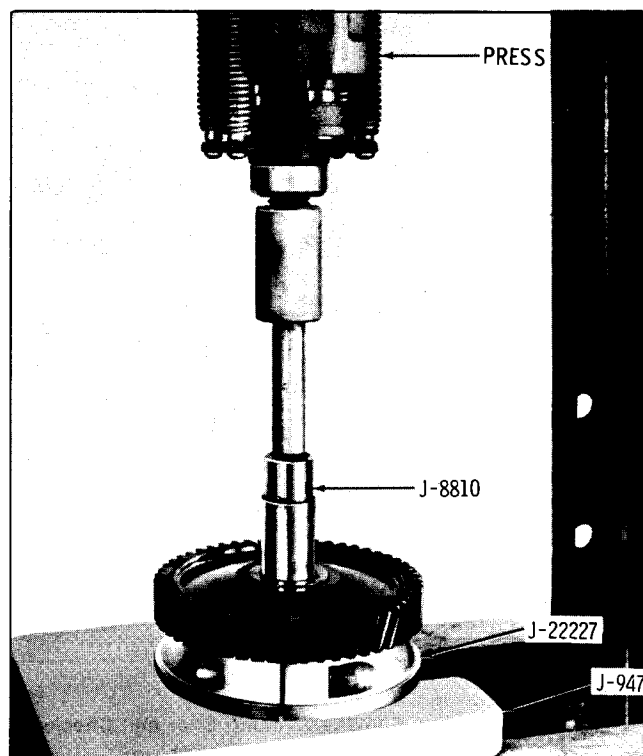

Fig. 6-47 Removing Camshaft Timing Gear
2. Place tools on table of a press. Place the camshaft through the opening in the tools. Press shaft out of gear using socket or other suitable tool (Fig. 6-47).